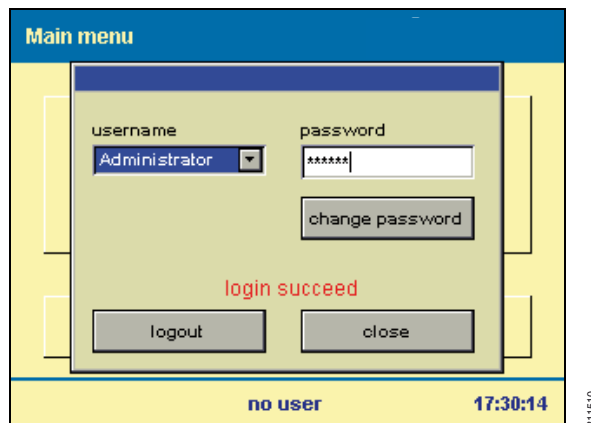

Fig. 8 Successful Log-in
2. You can now enter the password. Press **ok** to confirm the password, the user is logged in and you are returned to the screen shown in Fig. 8.